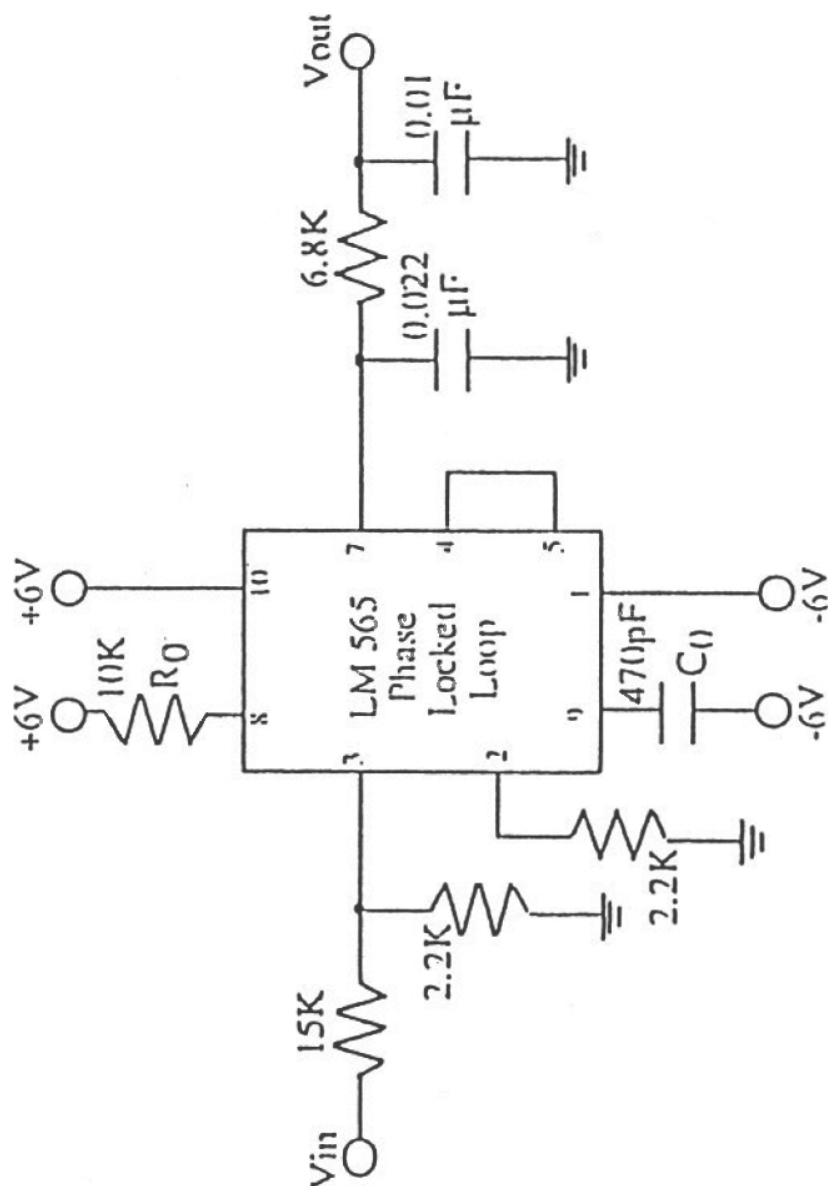

Figure 6.3: Phase-locked loop for FM demodulation
1. Build the FM demodulator using the LM565 phase-locked loop as shown in Fig. 6.3.